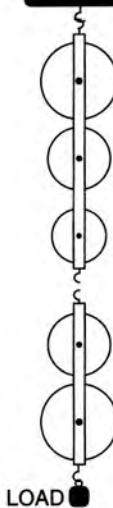

Fig. 3.32
- In Fig. 3.32, draw a tackle to lift the load by applying the force in the downward direction.